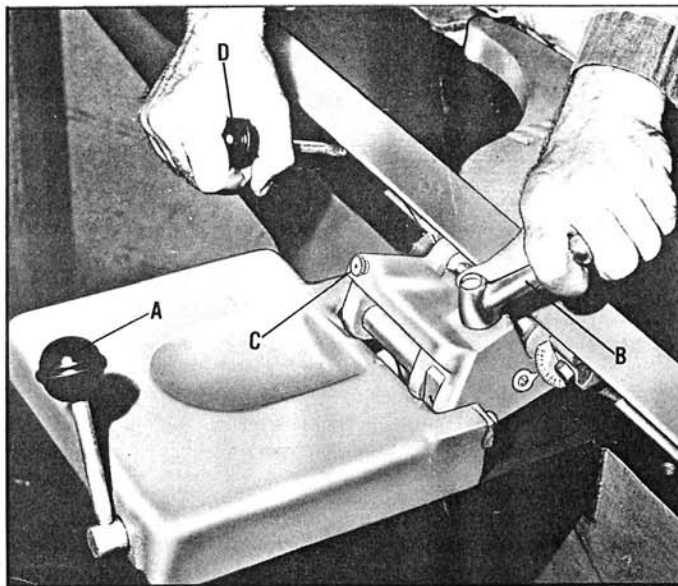

Fig. 15
The fence can be moved across the table by loosening locking handle (A) Fig. 15, move the fence to the desired position and retighten locking handle (A).
To tilt the fence to the right or left, loosen handle (B), pull out plunger (C) and using the tilting handle (D), move the fence to the desired angle, as shown in Fig. 15. **IMPORTANT:** When cutting a bevel, we suggest that whenever possible the fence be tilted to the left. The fence will then form a V-shape with the tables, and the work is easily pressed into the pocket while passing it across the knives.
2. Loosen the fence locking handle (B) Fig. 15, and tilt the fence the desired amount to bring it exactly at 90° to the table. Then tighten the locking handle (B) Fig. 15.
5. The locking handle (B) Fig. 15, can be adjusted to lock in the most convenient position by removing the round head screw and repositioning the handle.